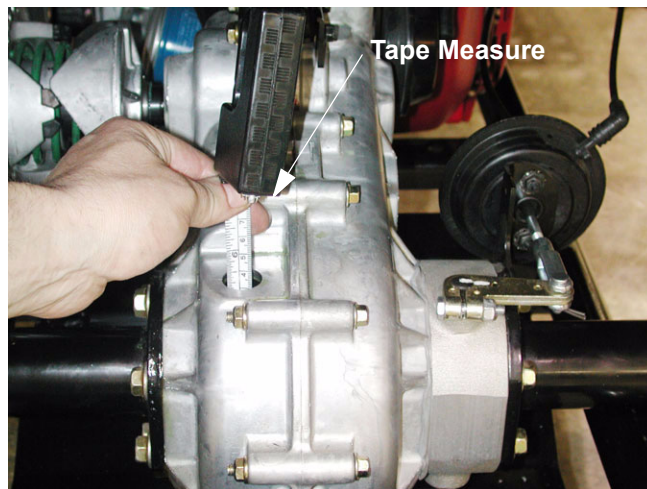

Figure 2.6
- 2.6. Insert and withdraw a clean steel rule or improvised dipstick. See Figure 2.6.